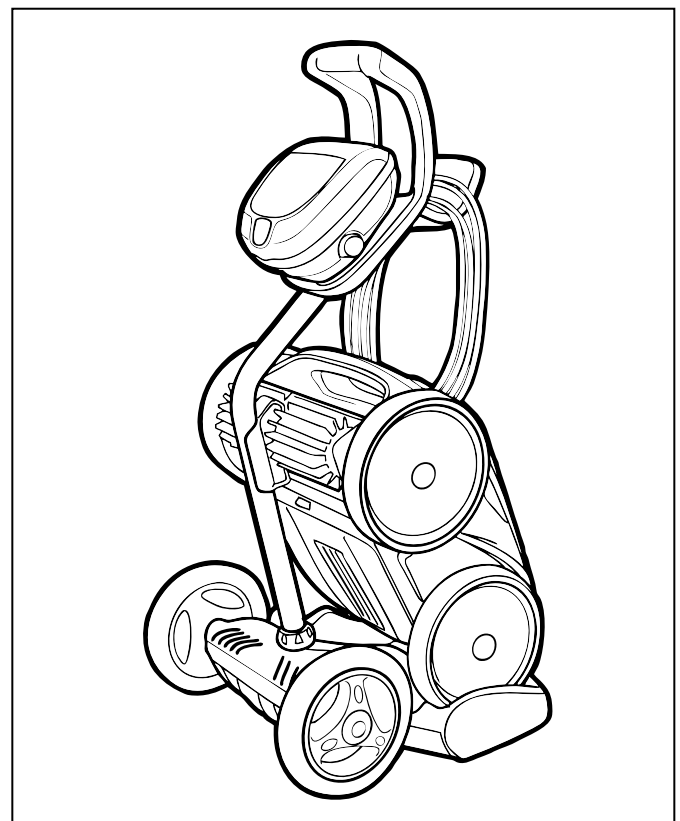

Figure 23. Cleaner Correctly Stored on Caddy
2. Place cleaner in vertical position on the caddy base and clip to hook (Figure 23).
5. Loosely coil the power cable starting at the cleaner and moving toward the connection point at control unit. Store the cable by wrapping it around the hook located on the front of the caddy (Figure 23).